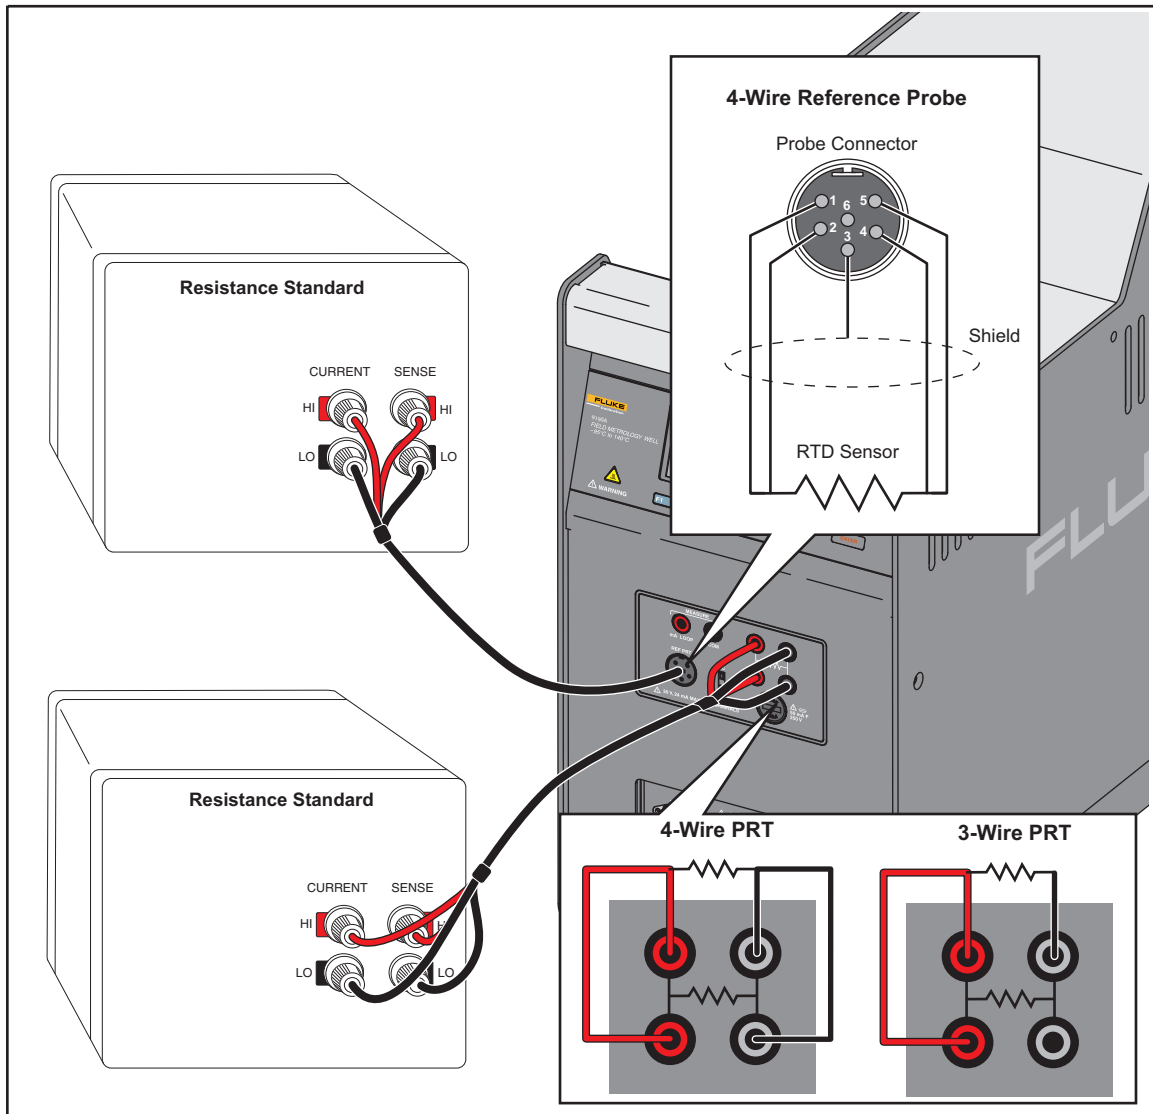

Figure 4-3. 4-Wire Setup
1. Connect the 100  $\Omega$  resistor in the 4-wire UUT configuration (see Figure 4-3).
- Connect the 100  $\Omega$  resistor in the 3-wire UUT configuration (see Figure 4-3).